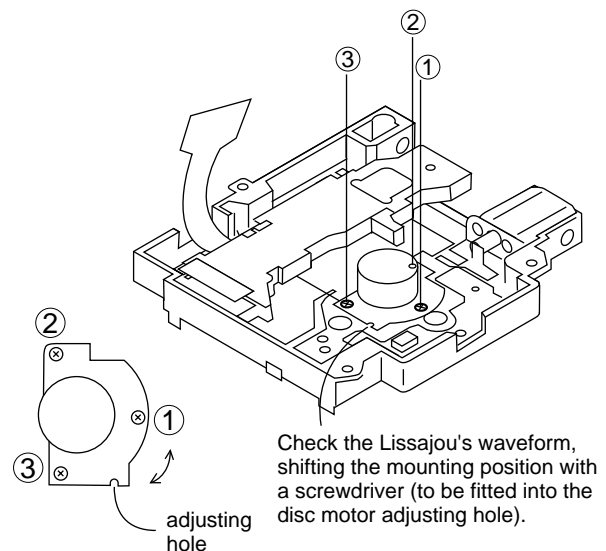

Figure 42-4
2. After adjustment, tighten screws 1, 2, and 3 in numerical order. (See Fig. 42-4.)